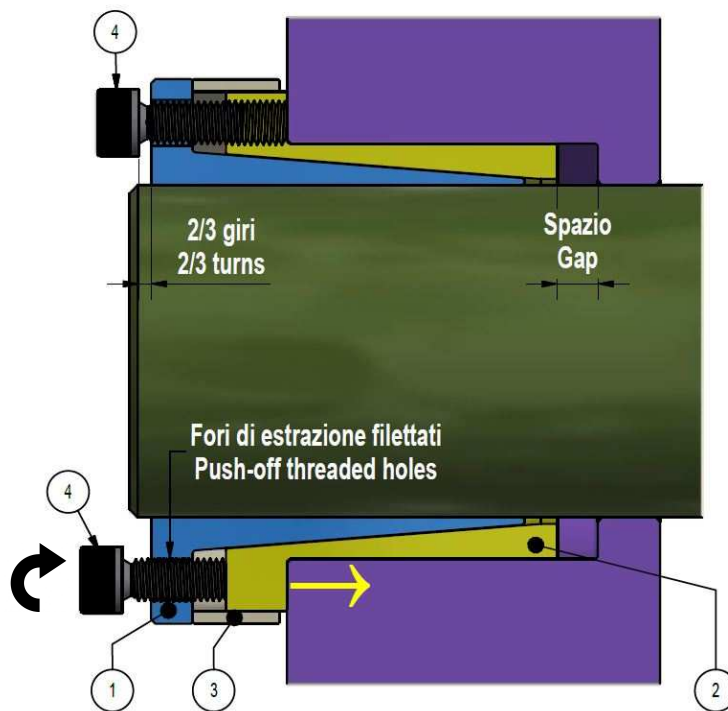

Fig. 2. Disengagement of locking rings and positioning of Locking Assembly.
2. **For ease of installation, locking rings shall be disengaged** (fig. 2). Loosen all screws by two/three turns; then transfer and hand-tighten at least two screws into the push-off threaded holes in the inner ring.
3. Insert Locking Assembly into the hub bore and make it slide onto the shaft, making sure that connected components are positioned as required. **Inner and outer rings shall be completely supported by shaft respectively hub bore** (fig. 2). At this point, relocate the screws used to disengage the locking rings. Installation into hubs with shoulder requires a few mm's gap between outer ring and shoulder (fig. 2).